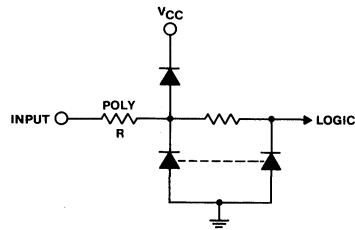
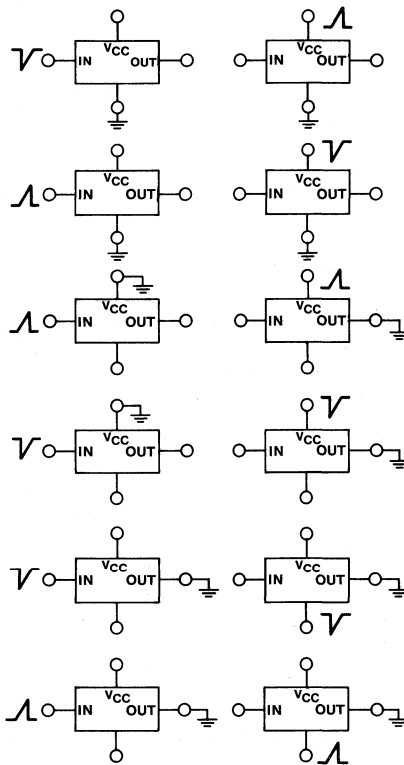
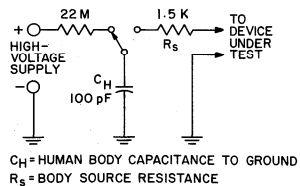
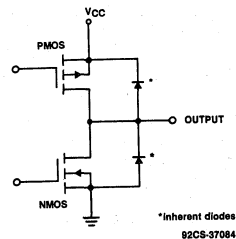

Fig. 9 - Resistor-diode protection network used on inputs of QMOS devices to protect device gate oxide from electrostatic discharge damage(ESD).
Fig. 10 - QMOS ESD test modes
Fig. 11 - Test circuit used to measure electrostatic discharge (ESD) in QMOS circuits. The rise time at the output terminal should be 13 ± 2 nS.
Fig. 21 - Inherent diodes protecting QMOS output
The very low QMOS input current and hence, high input resistance is primarily due to low-level leakage currents of the input ESD protection diodes shown in Fig. 9. This excellent input buffering characteristic of CMOS logic IC's is fundamental to the wide range of very low power applications from pure logic to wide range RC oscillators, high Q crystal oscillators, etc. However, in no situation should this high input resistance be left floating or unterminated. Inputs may be tied directly to V_{CC} or GND via resistors of up to 1Mohm; the upper limit is only related to ac noise immunity, i.e., pick up.
One additional note on HC/HCT input terminations. There are several bidirectional (transceiver) logic types in the QMOS family with common I/O pins. These I/O pins do not have the input poly resistor (R) of Fig. 9. Hence, these pins cannot be terminated directly to V_{CC} or GND. A terminating resistor to V_{CC} or GND of 10Kohm is recommended.
QMOS device inputs have a resistor-diode protection network, shown in Fig. 9, that protects the gate oxide from electrostatic discharge (ESD) damage. The network provides protection to levels typically greater than 2kV in all modes pertaining to the input, as shown in Fig. 10. The 2kV figure was arrived at by testing devices in the ESD test circuit shown in Fig. 11 while conforming to the MIL-STD-38510 requirements.
As a general rule, CMOS logic devices employing input clamp diodes (Fig. 9) to minimize ESD effects should be operated between the power supply rails. If the input series polysilicon resistor shown in Fig. 9 is not considered, then the rule is:
The outputs in a QMOS device are protected from ESD damage by diodes. Figure 21 shows these diodes. These intrinsic diodes are effective because of the large geometries (widths) of the output transistors. These diodes are the drain to n-substrate junction of the p device and the drain to p-well junction of the n device. This network provides protection to voltage levels typically greater than 3kV in all ESD discharge modes pertaining to the output (see Fig. 9).